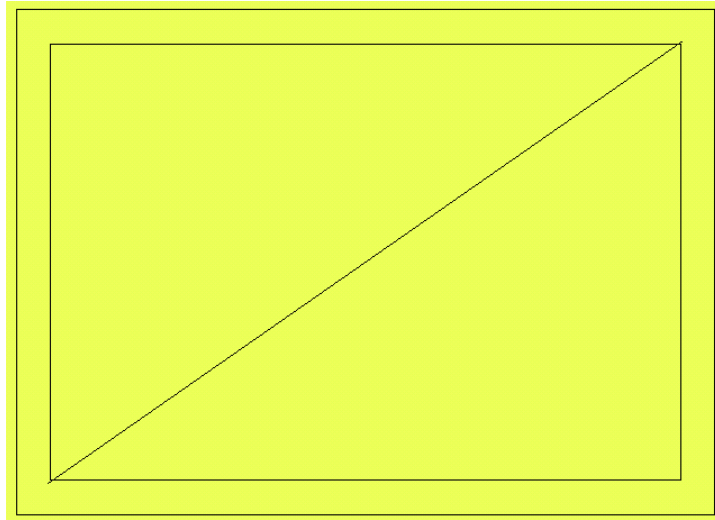

Figure 4-93
10. Type **1383.33,883.33 (410,287)** and click <Enter>. Select *View/Redraw* to refresh the image. The smaller rectangle represents the inner boundary of the fill and it will be the border line for the template. See Figure 4-93.